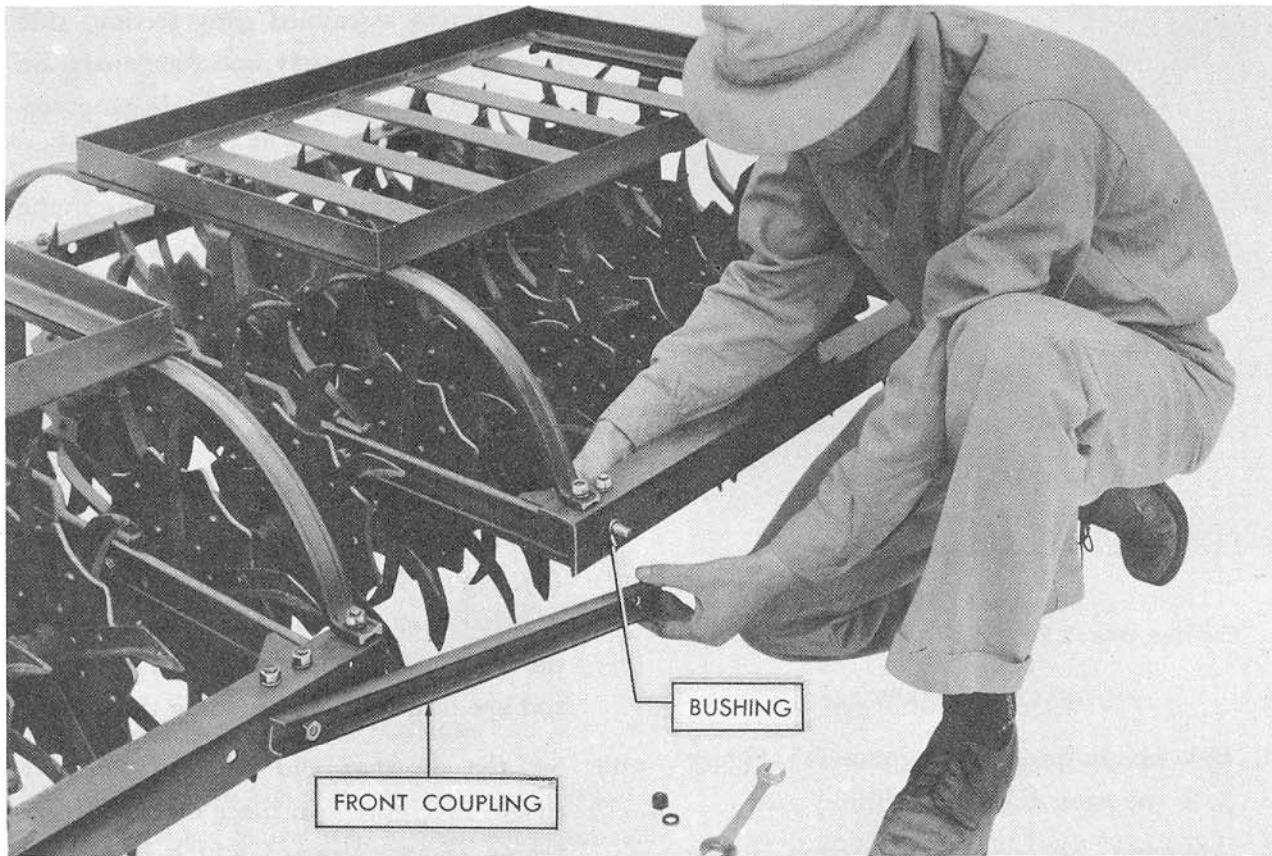

Figure 8
8. Bolt the front gang section coupling to the front gang frame angle bars as shown in Figure 8. Use the large holes in the frame and see that the bushings are in place in the large holes before tightening the nuts.